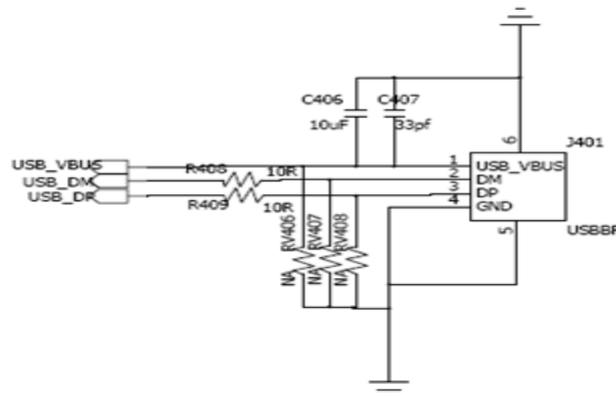

Figure 2-5 The reference circuit of USB interface
The reference circuit of USB interface is shown in **Figure 2-5** below.
- 2) To reduce the reflection caused by the high frequency alternating signal in the transmission, it is recommended to add a resistor with value below 10Ω to the DM and DP in USB interface to ensure correct transmission for USB data. Just like the resistors R408 and R409 in **Figure 2-5**.